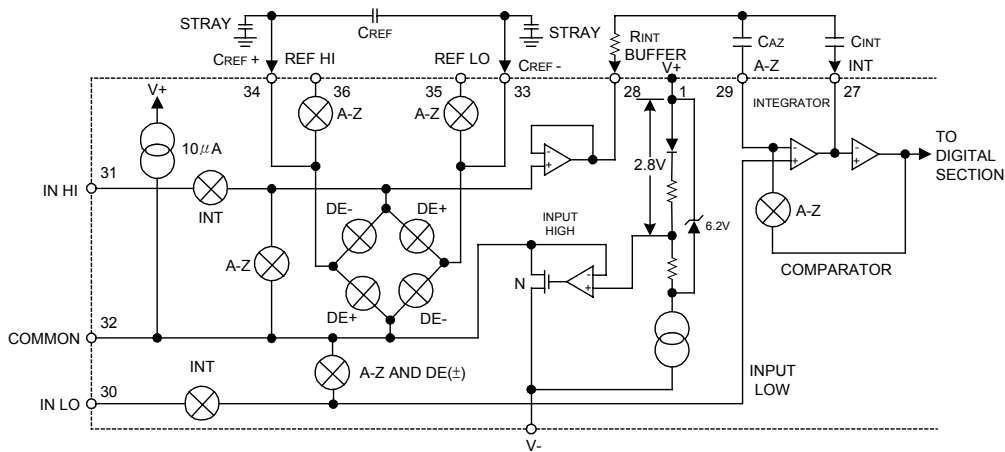

FIGURE 1. ANALOG SECTION
Note 3: Unless otherwise noted, specifications apply to the UTC 7106 at Ta=25 $^{\circ}$ C, fclock=48kHz, UTC 7106 is tested in the circuit of Figure 1.
Figure 1 shows the Analog Section for the UTC 7106. Each measurement cycle is divided into three phases. They are (1) auto-zero(A-Z), (2) signal integrate (INT) and (3) de-integrate(DE).
The UTC 7106, with its negligible dissipation, suffers from none of these problems. In either case, an external reference can easily be added, as shown in Figure 1.